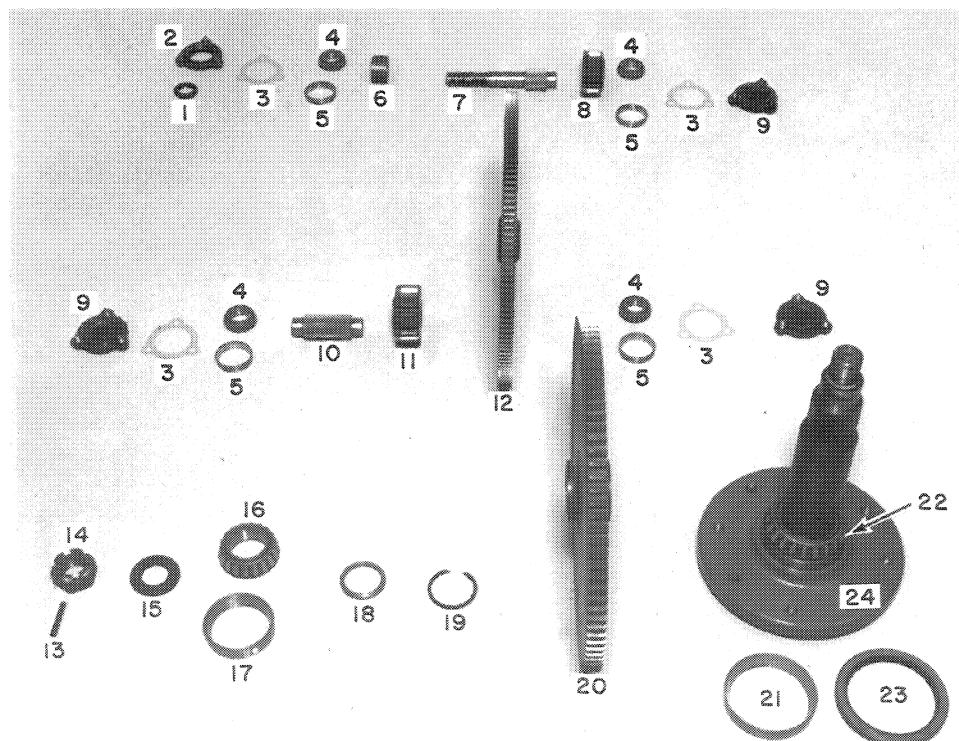

FIGURE 1-4
B. PARTS LIST - SEE FIGURE 1-4
C. DISASSEMBLY FIGURES 1-4 THROUGH 1-11
- Check bores for the six bearing cups for wear or burrs. The cups will be a push or drive fit in the case. Intermediate and top shaft bearing holes in the case are 1.9810" to 1.9820." The cup (5) outside diameters are 1.9800" to 1.9810". The axle shaft hole is 4.1305" to 4.1315" for the large bearing. The cup (21) outside diameter is 4.1331" to 4.1339". The axle shaft hole is 3.263" to 3.264" for the smaller bearing. The cup (17) outside diameter is 3.265" to 3.266". See Figures 1-4 and 1-5.
or drive fit on the shafts. The intermediate (10) and top shaft (7) bearing seats are 1.0015" and 1.0025". The inside diameter of the bearing cones (4) is 1.0000" to 1.0008". The axle shaft bearing seat for the larger bearing is 2.5605" to 2.5610". The inside diameter of bearing cone (22) is 2.5585". The axle shaft bearing seat for the small bearing is 1.7510" to 1.7515". The inside diameter of the bearing cone (16) is 1.7500" to 1.7505". See Figures 1-4 and 1-5.